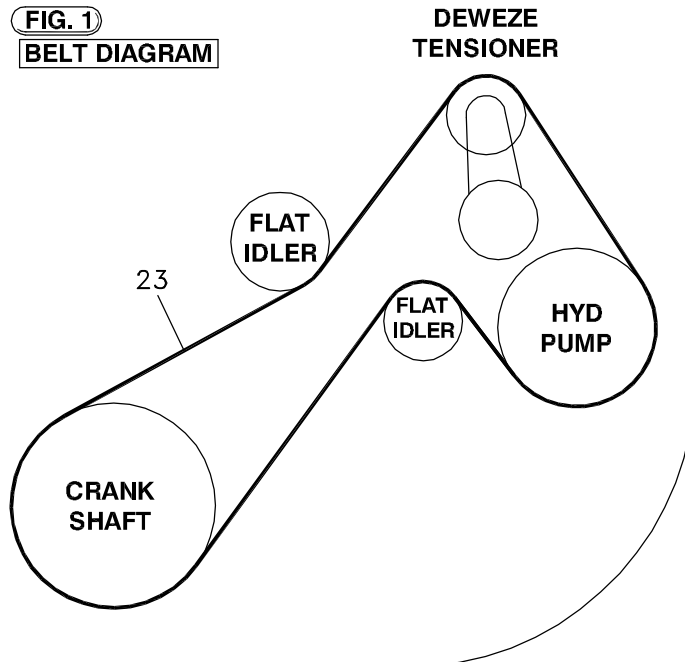

FIG. 2
6. Remove the OEM bolt (13) from the front of the thermostat housing (Location E), place the OEM electrical wire as shown there and fasten with the OEM bolt.
8. Refer to Fig. 2: Clamp off the large suction hose coming from the power steering reservoir. This will keep the fluid from running out the ports when the lines are loosened. Remove both lines from the top of the power steering box for easier access. On the hose that was closest to the engine, cut the steel line just at the start of the first bend from the end of the hose. Slide the nut, then the ferrule onto the tube and attach that to the new hose (24). Thread the adapter (23) into the steering box pointing it down toward the front of the truck. Thread the other end of the hose into the adapter. Replace the OEM line farthest from the engine without modification. Tighten all connections. Remove the clamp.
9. Install the crank damper (20) and spider drive (19). Replace the OEM water pump with the new water pump with extended hub, using the original water pump pulley over. Refer to the separate sheets for these procedures.
10. Attach the pump (7) to the back of the pump plate (1) using two 3/8 x 1 1/4 bolts (11) and two 3/8 flat washers (15).
12. Place the 8-groove idler pulley (16) on the boss on the tensioner arm. Insert the idler bushing (4, .200" flange) into the center of the idler. Hold it on with the M8 x 40 bolt (17). Place the tensioner spacer (2) on the pump plate at Location J inserting the pin into the hole in the plate. Place the tensioner (6) on the spacer using the M12 x 75 bolt (12) placing the locating pin in the hole in the spacer.
13. Attach the pump plate to the engine at Locations A, B, C, and D using four M8 x 120 bolts (9) with one .188" thick washer (3) on each bolt and two standard 3/8" flat washers (15) on the bolt at Location B only.
14. Attach one flat idler (5) to the plate with the M10 x 20 bolt (10) and 3/8 flat washer (15) at Location H. Attach the other flat idler (5) with an M10 x 20 bolt (10) and 3/8 flat washer (15) at Location I.